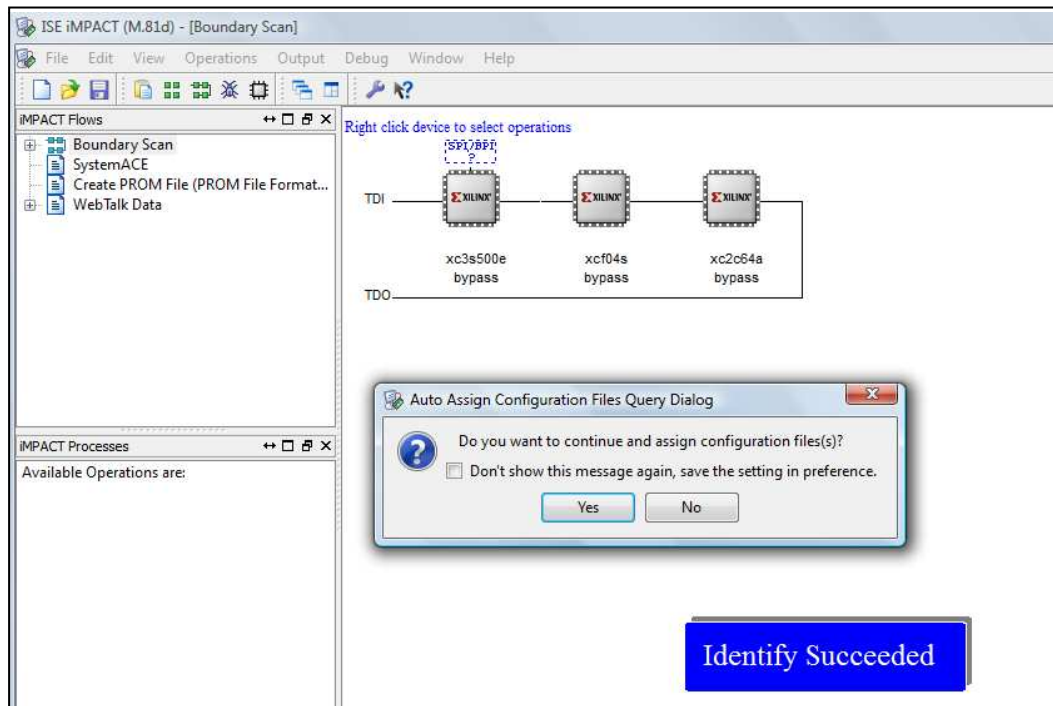

Figure 5.41: iMPACT window, assign configuration files.
7. After a while, a picture of a “chain” should appear, along with the message **Identify Succeeded** in a blue box (Figure 5.41). The first chip, the **xc3s500e**, is the FPGA chip that we wish to program. The other two, **xc404s** and **xc2c64a**, are other chips on the board that will be bypassed.
A dialog box, asking “Do you wish to continue and select configuration file(s)?” will appear, as shown in Figure 5.41. Click **Yes**.